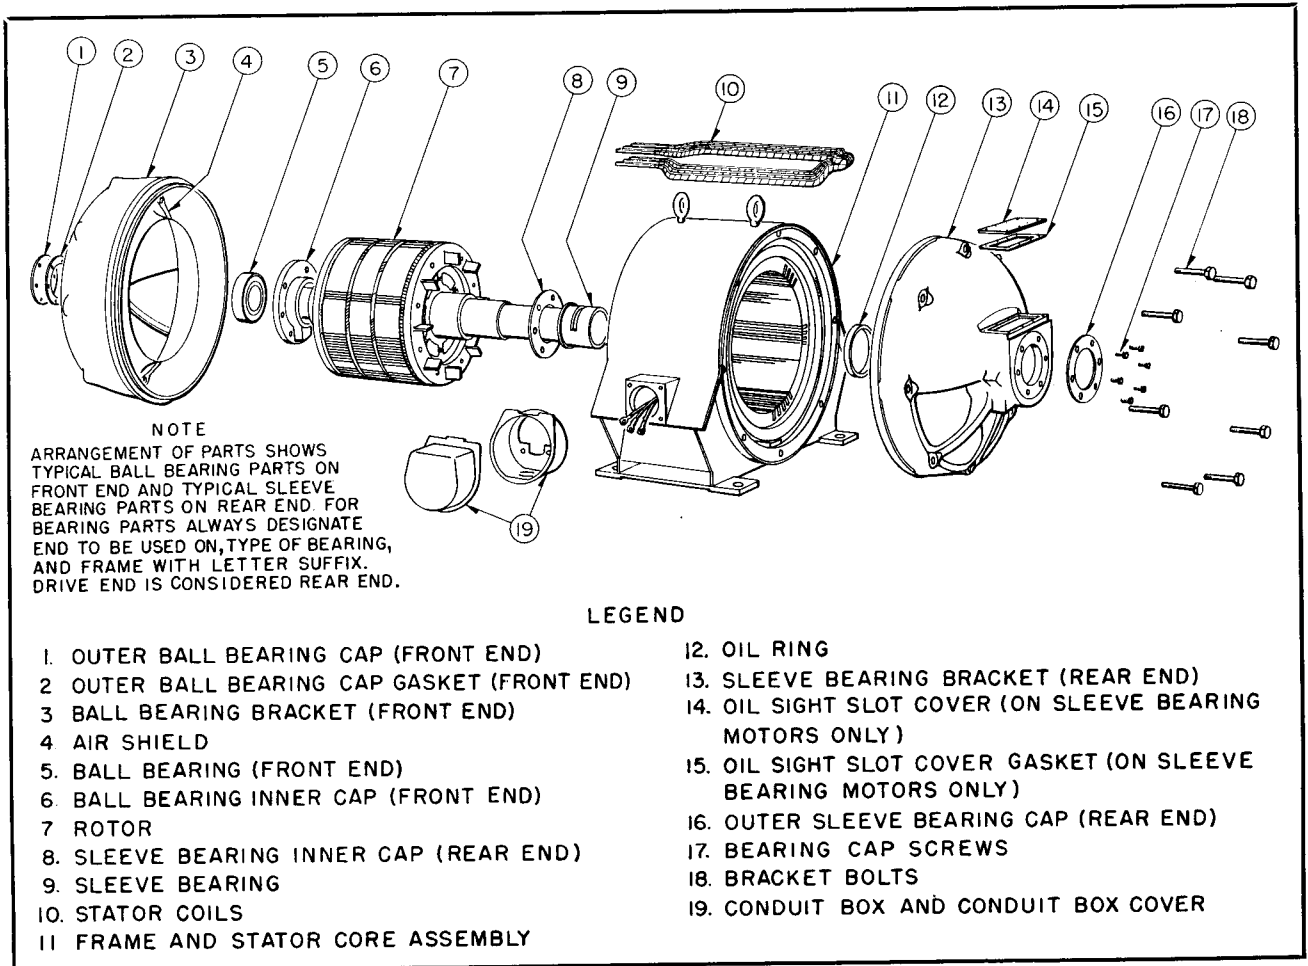

FIG. 3. Arrangement of Parts—Drip-Proof Type CSP Motor (Frames 580-683)
4. Remove bearing locking screw and oil ring keeper. (Item 4 of Fig. 3).